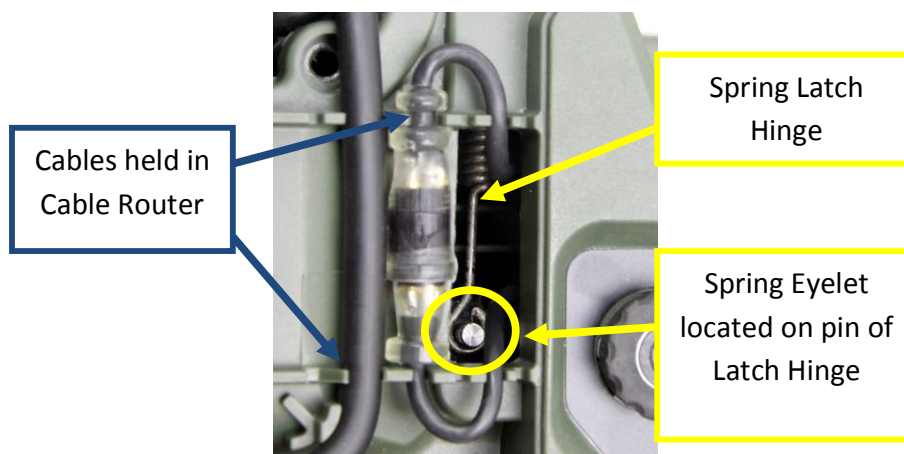

Figure 26: Underneath Hinge Cover
- Check the latch and spring latch hinge are connected as shown in Figure 26. If the latch and spring have become disconnected they must be reconnected. It is possible to reattach the eyelet of the spring to the pin of the latch hinge through the opening under the hinge cover. Alternately the detector body can be opened to reattach the spring to the latch.